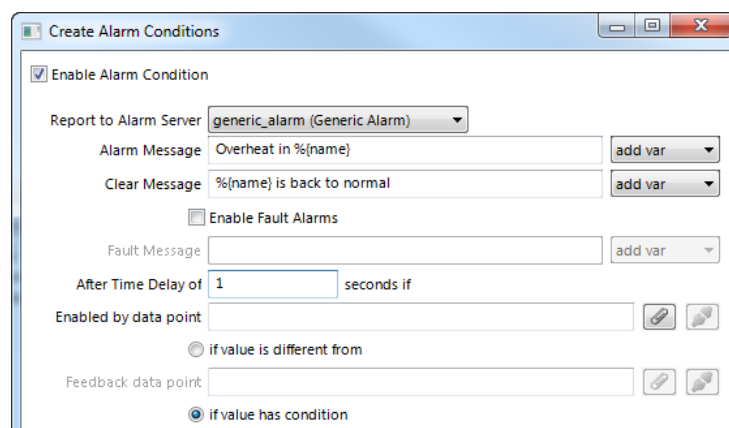

Figure 134: Common settings for an alarm condition
3. For the alarm condition edit the following definitions, which apply to all condition types as shown in Figure 134. Select the **Alarm Server** which the alarm shall be reported to. Typically, you will choose a generic alarm server.